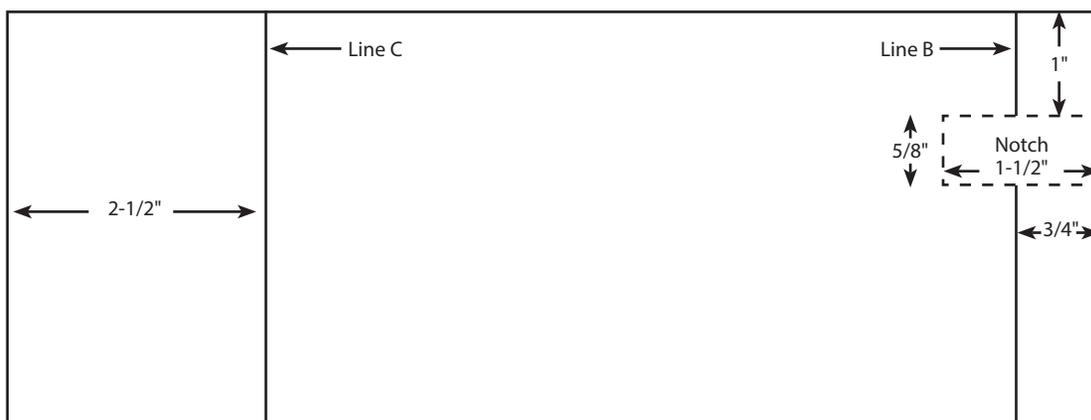

Figure 2
2. Turn over the balsa sheet. Draw Line B  $\frac{3}{4}$ " from one end of the sheet (Figure 2).
3. At the same end, draw a  $\frac{5}{8}$ " x  $1\frac{1}{2}$ " notch 1" from the top of the sheet (Figure 2).
4. Draw Line C  $2\frac{1}{2}$ " from the other end of the same sheet of balsa wood (Figure 2).